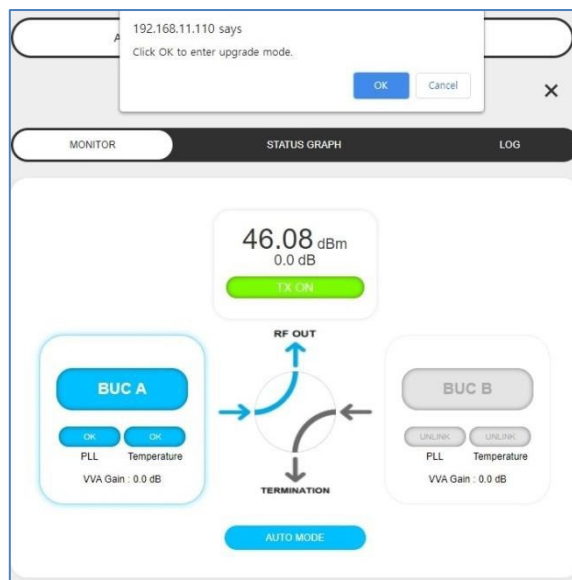

Figure 4.25 – Upgrade Popup Window
- 3) Click OK in the popup window to proceed with the upgrade as shown in **Figure 4.25**.